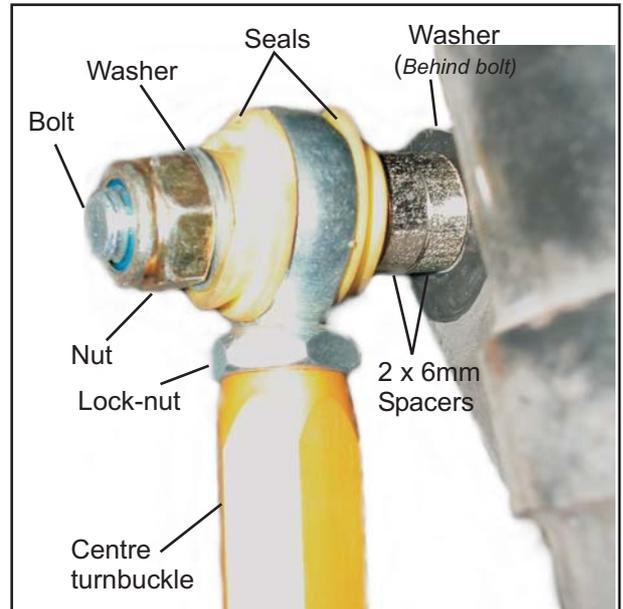
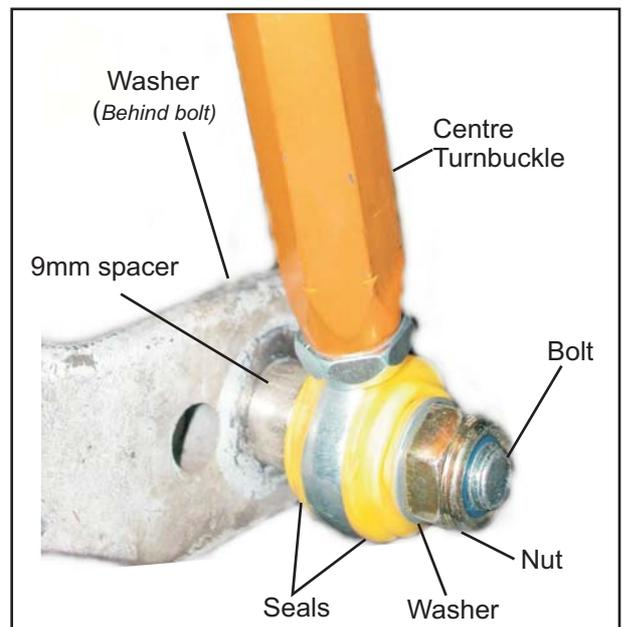

Fig1. KLC005. Strut mounting end - top.
Fig2. KLC005. Sway bar mounting - Bottom.
3. Assemble link, placing dust seals and spacers as shown in Figs.1&2. Link to strut mount shown in Fig. 1. Link to sway bar shown in Fig. 2.